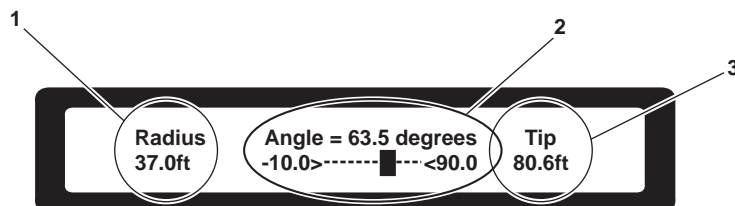

Figure 33. Radius, Live Boom Angle, and Tip Height Display Screen
2. Access the radius, live boom angle, and tip height display screen (figure 33) by pressing the up arrow button (figure 17, item 5) on the LMI receiver panel (figure 17, item 2) once while in the primary operating screen (figure 25).
3. The radius, live boom angle, and tip height display screen (figure 33) will display load radius (figure 33, item 1), boom angle (figure 33, item 2), and tip height (figure 33, item 3).